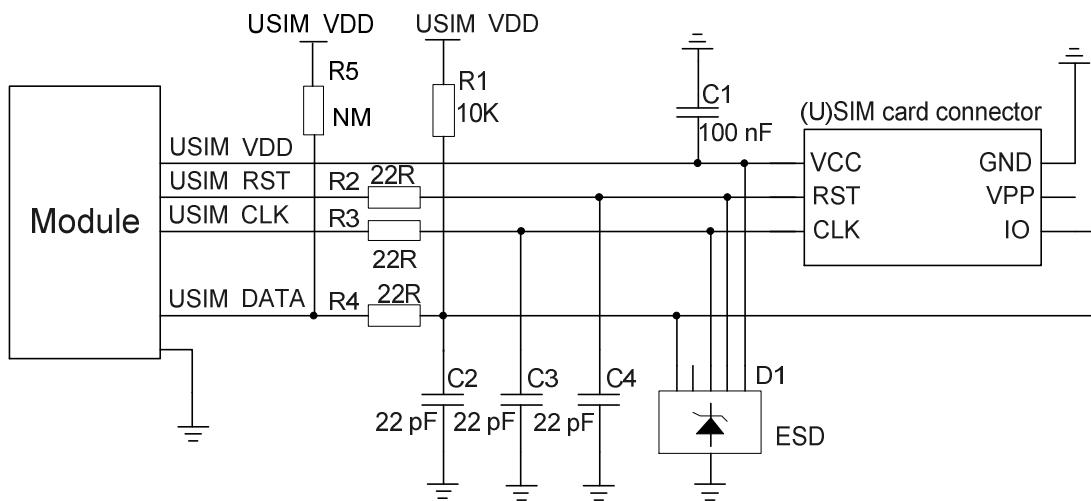

Figure 16: Reference Circuit for (U)SIM Interface with a 6-pin (U)SIM Card Connector
- Place the (U)SIM card connector as close to the module as possible. Keep the trace length of (U)SIM card signals as less than 200 mm as possible.
- Keep (U)SIM card signals away from RF and VBAT traces.
- Reserve a filter capacitor for USIM_VDD, and its maximum capacitance should not exceed 1 μ F. Additionally, place the capacitor near the (U)SIM card connector.
- In order to ensure good ESD protection, it is recommended to add a TVS diode array with parasitic capacitance not exceeding 50 pF. Add 22 Ω resistors in series between the module and (U)SIM card to suppress EMI spurious transmission and enhance ESD protection. Please note that the (U)SIM peripheral circuit should be close to the (U)SIM card connector.
- Add 22 pF capacitors in parallel on USIM_DATA, USIM_CLK and USIM_RST signal lines to filter RF interference, and place them as close to the (U)SIM card connector as possible.
- Place the reserved pull-up resistors R6 and R5 in **Figure 16** and **17** close to the module.